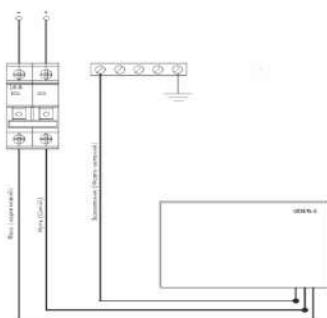

Fig. 2. Scheme of connection of panels with remote control
7.2.4 Connect the wires and cables according to the scheme shown in **Fig. 2**. Close the contact protective cover. The cover over the terminal block has two holes: use the 1st as a power outlet, the 2nd – for parallel connection of the following panels (if there are none, use only one outlet and close the second with a special rubber plug).